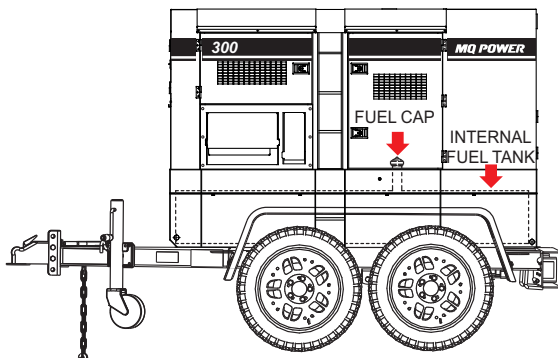

Figure 38. Fuel Tank
**ALWAYS** fill the fuel tank (Figure 38) with clean, fresh, #2 diesel fuel. **DO NOT** fill the fuel tank beyond its capacity.